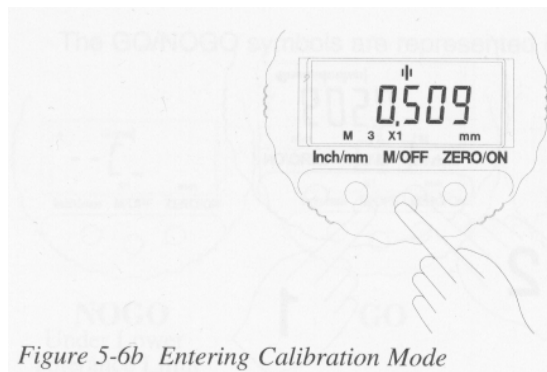

Figure 5-6b Entering Calibration Mode
- 7) Press and hold M/OFF for 2+ seconds until M3 is displayed. (Fig.5-6b)